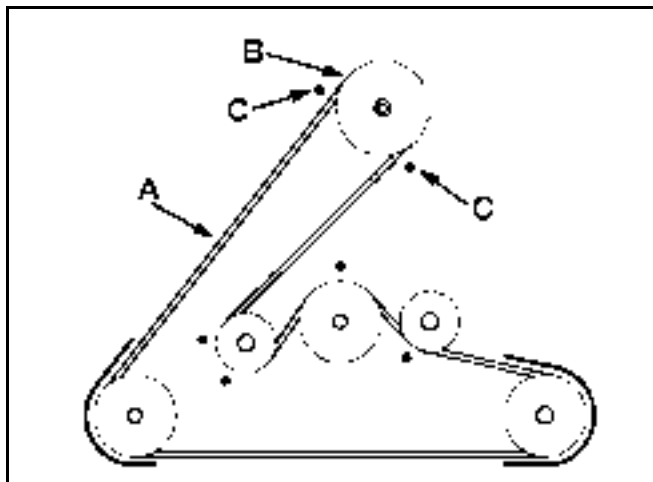

Figure 231
15. Remove the mower belt from the engine pulley (Figure 231). If you are careful, you can flex the belt guide(s) just far enough away from the pulley to remove the belt. If it is too difficult to remove the belt, loosen the bolts and nuts securing the belt guides. Tighten bolts.